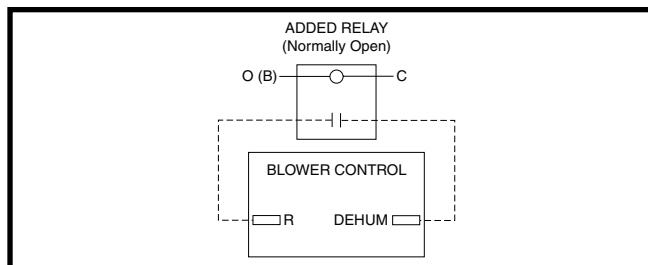

Figure 26. DEHUM Wiring Configuration without Humidistat
- If a humidistat is not available, it is an acceptable option to connect the **R** & **DEHUM** via a field supplied normally open relay. See Figure 26 (page 26). The **R** & **DEHUM** terminals should be connected across the normally open relay terminals. The **O** (**B**) & **C** terminals should then be connected across the relay coil. This option causes the blower to run at a reduced CFM for 10 minutes after a call for cooling.